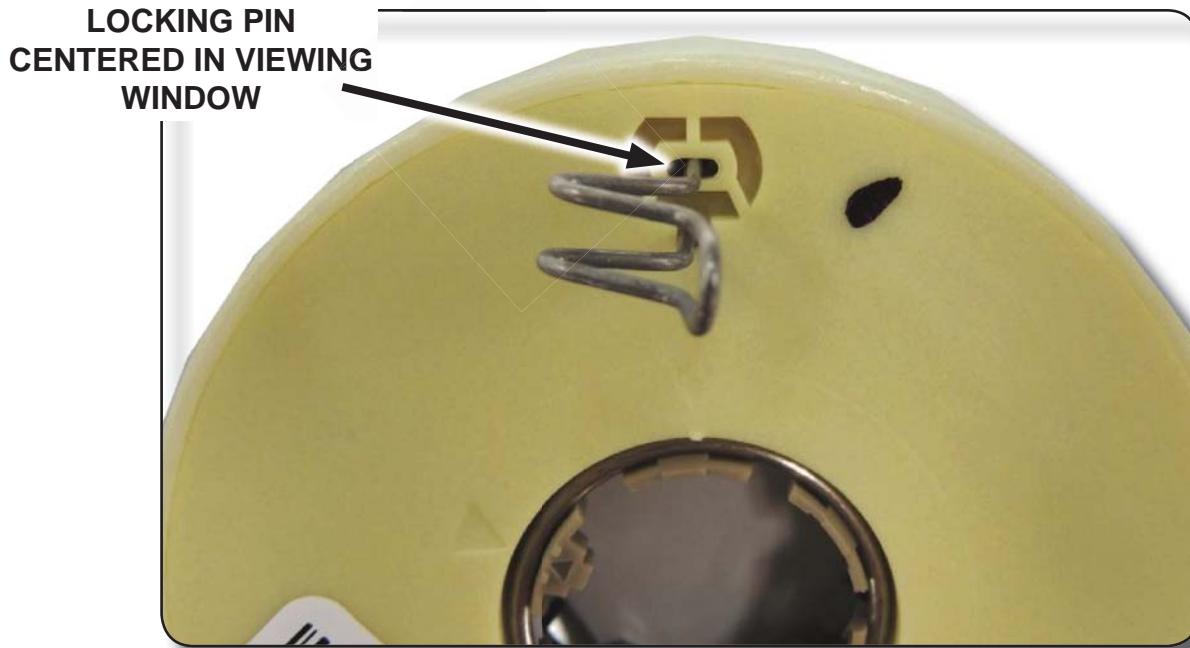

FIGURE 19
25. Ensure the locking pin is not wedged to one side of the sensor viewing window. The optimal position for the locking pin is centered in the viewing window. See Figure 19.